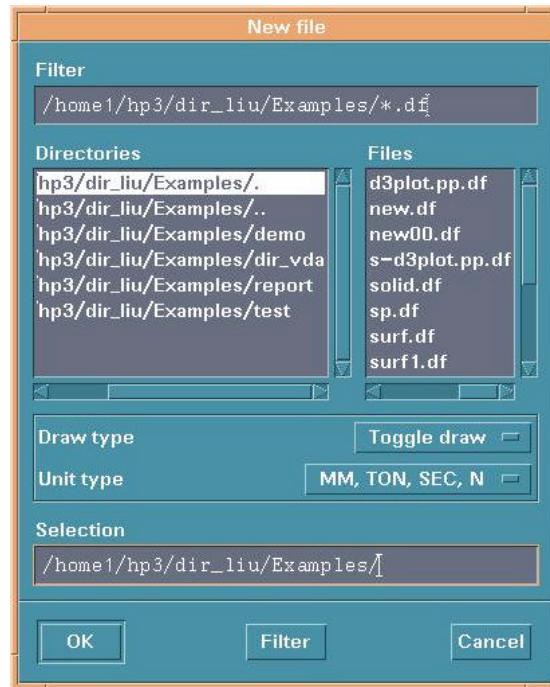

Figure 3.1.2 New File
- The NEW FILE dialog window will appear, see Figure 3.1.2.